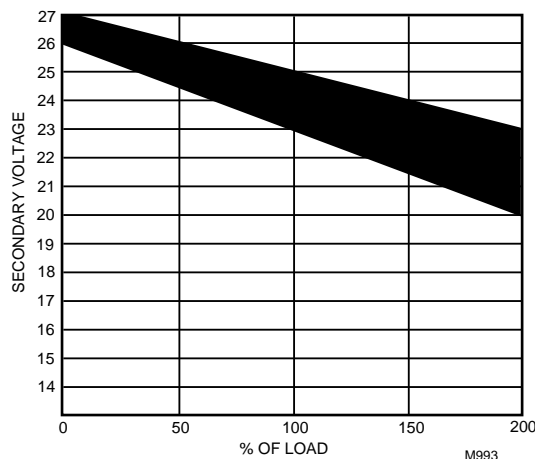

Fig. 29. NEMA Class II transformer voltage output limits.
This means that four volts are going to be lost between the transformer and the controller; therefore, to assure the controller receives at least 20 volts, the transformer must output more than 24 volts. Because all transformer output voltage levels depend on the size of the connected load, a larger transformer outputs a higher voltage than a smaller one for a given load. Fig. 29 shows this voltage load dependence.
In the preceding $I \times R$ loss example, even though the controller load is only 37 VA, a standard 40 VA transformer is not sufficient due to the line loss. From Fig. 29, a 40 VA transformer is just under 100 percent loaded (for the 37 VA controller) and, therefore, has a secondary voltage of 22.9 volts. (Use the lower edge of the shaded zone in Fig. 29 that represents the worst case conditions.) When the $I \times R$ loss of four volts is subtracted, only 18.9 volts reaches the controller, which is not enough voltage for proper operation.
1. Use a larger transformer; for example, if an 80 VA model is used, see Fig. 29, an output of 24.4 volts minus the four volt line loss supplies 20.4V to the controller. Although acceptable, the four-volt line-loss in this example is higher than recommended. See the following **IMPORTANT**.
To meet the National Electrical Manufacturers Association (NEMA) standards, a transformer must stay within the NEMA limits. The chart in Fig. 29 shows the required limits at various loads.
The following Honeywell transformers, see Table 19, meet this NEMA standard (Fig. 29):